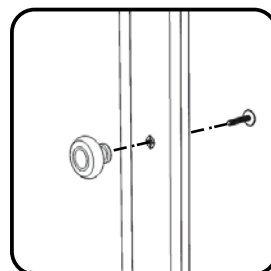

Figure 7
Attach Knobs to Doors (M) and (N) with Machine Screws. (See Figure 7)